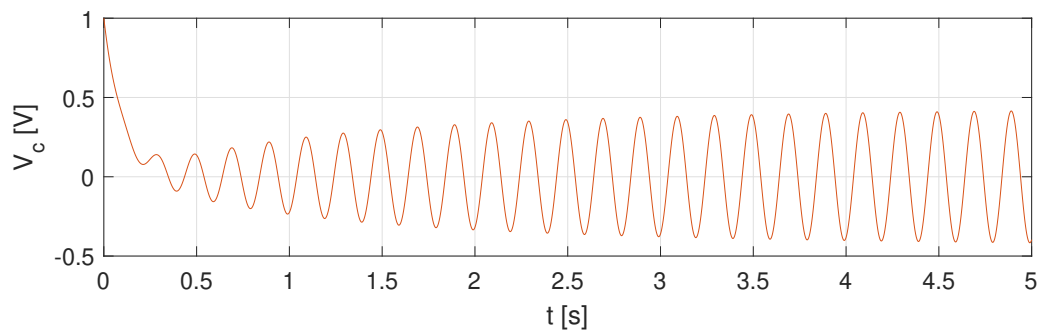

Figure 12: Voltage source $v(t) = \sin(2\pi ft) \arctan(t)$ and capacitor discharge.
2) In Figure 12 it has been shows the behaviour of V_C with a voltage source $v(t) = \sin(2\pi ft) \arctan(t)$.